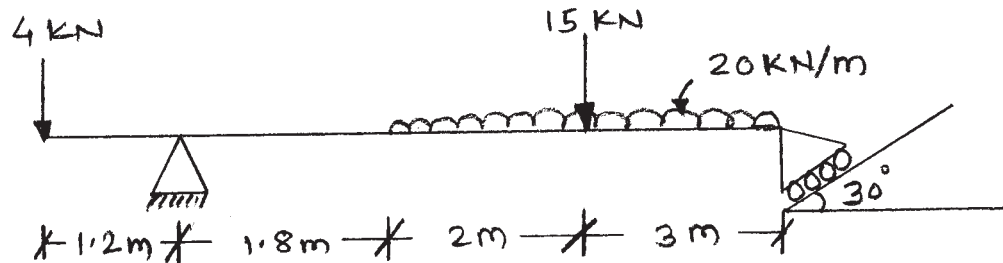

Fig. No. 6
- a) Determine the support reactions developed for the overhang simply supported beam loaded as shown in Fig. No. 6.